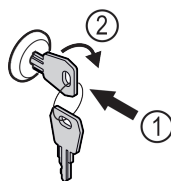

Fig. 194
- ▶ Insert the key. Fig. 194 (1)
- ▶ Turn the key clockwise by 90°. Fig. 194 (2)